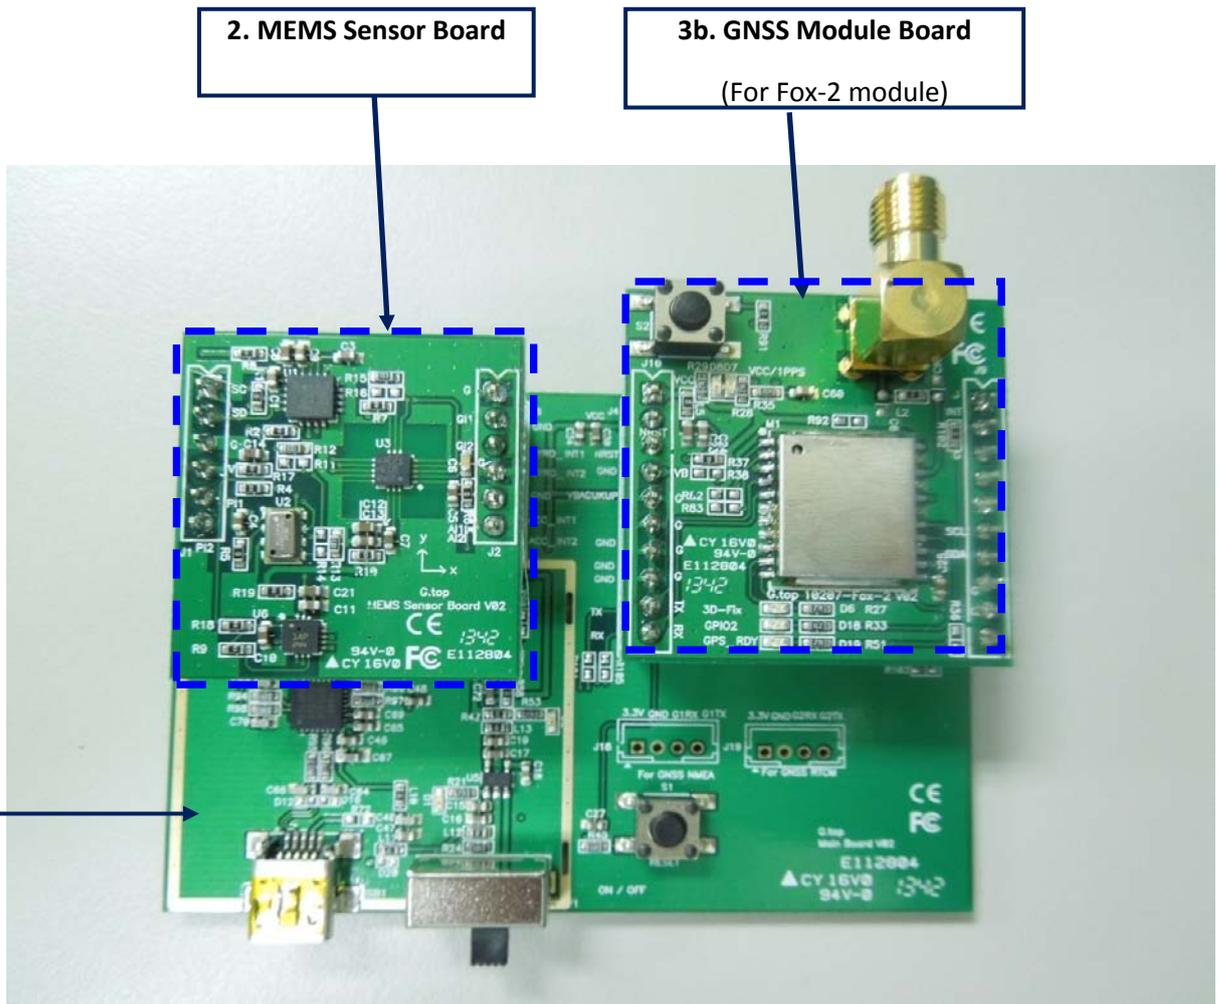

Figure 3. EV-Kit boards
- Ensure that the boards are on the correct placement orientation. Refer to Fig.3